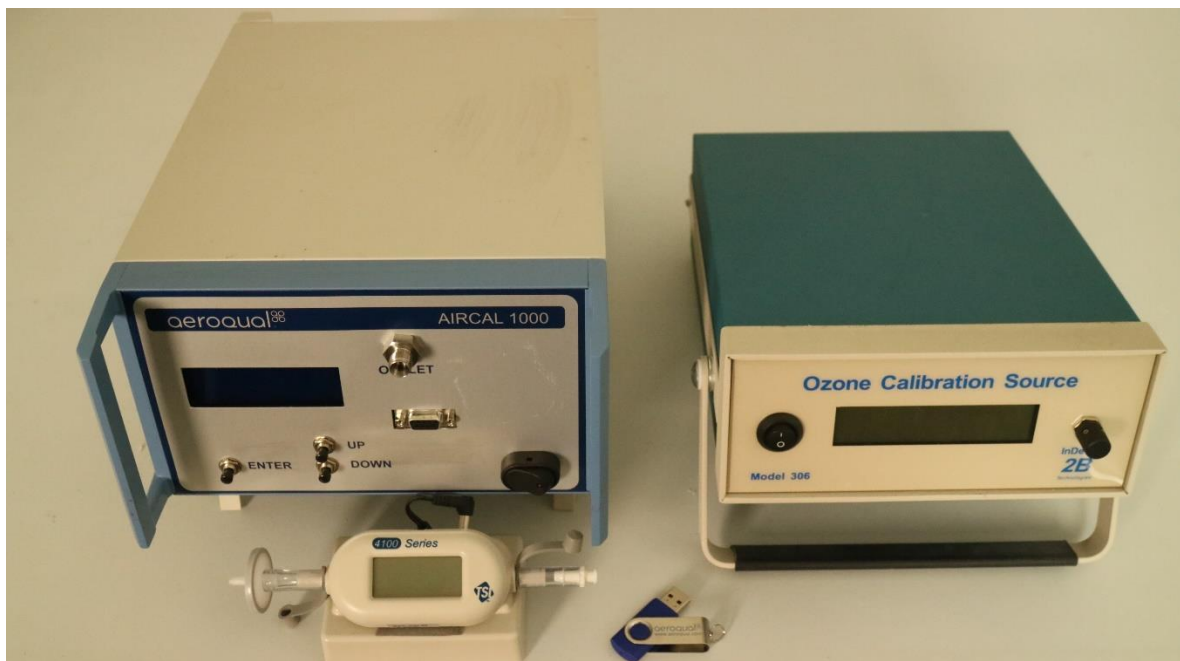

Figure 0-3 The Ozone calibrator (right) and AirCal 1000 (left) are light weight and can easily be transported to the AQM 65
Aeroqual provides all of the equipment required to perform the calibration. Aeroqual offers a portable calibrator called the AirCal 1000 shown in Figure 0-3 and an integrated calibrator shown in Figure 0-5.
- The AirCal 1000 can be used to zero calibrate Ozone, but not for Ozone span calibration. For Ozone span calibration Aeroqual recommends the 2B Technologies Model 306 Ozone (AQM O3CAL) generator shown in Figure 0-3 .